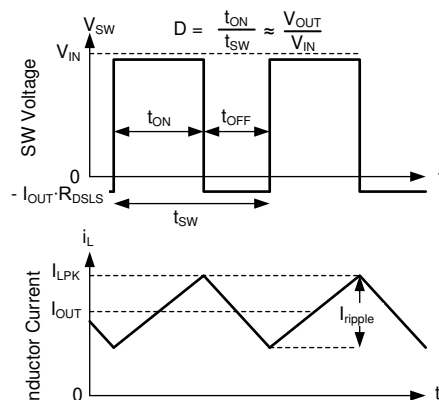

图 23. SW Voltage and Inductor Current Waveforms in Continuous Conduction Mode (CCM)
The following operating description of the LM61440-Q1 refers to the Functional Block Diagram and to the waveforms in Figure 23. In CCM, the LM61440-Q1 supplies a regulated output voltage by turning on the internal high-side (HS) and low-side (LS) NMOS switches with varying duty cycle (D). During the HS switch on-time, the SW pin voltage, V_{SW} , swings up to approximately V_{IN} , and the inductor current, i_L , increases with a linear slope. The HS switch is turned off by the control logic. During the HS switch off-time, t_{OFF} , the LS switch is turned on. Inductor current discharges through the LS switch, which forces the V_{SW} to swing below ground by the voltage drop across the LS switch. The converter loop adjusts the duty cycle to maintain a constant output voltage. D is defined by the on-time of the HS switch over the switching period: